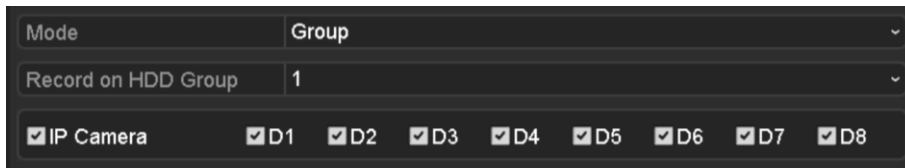

Figure 15-13 Storage Mode Interface
Step 2 Set the **Mode** to Group, as shown in Figure 15-13.